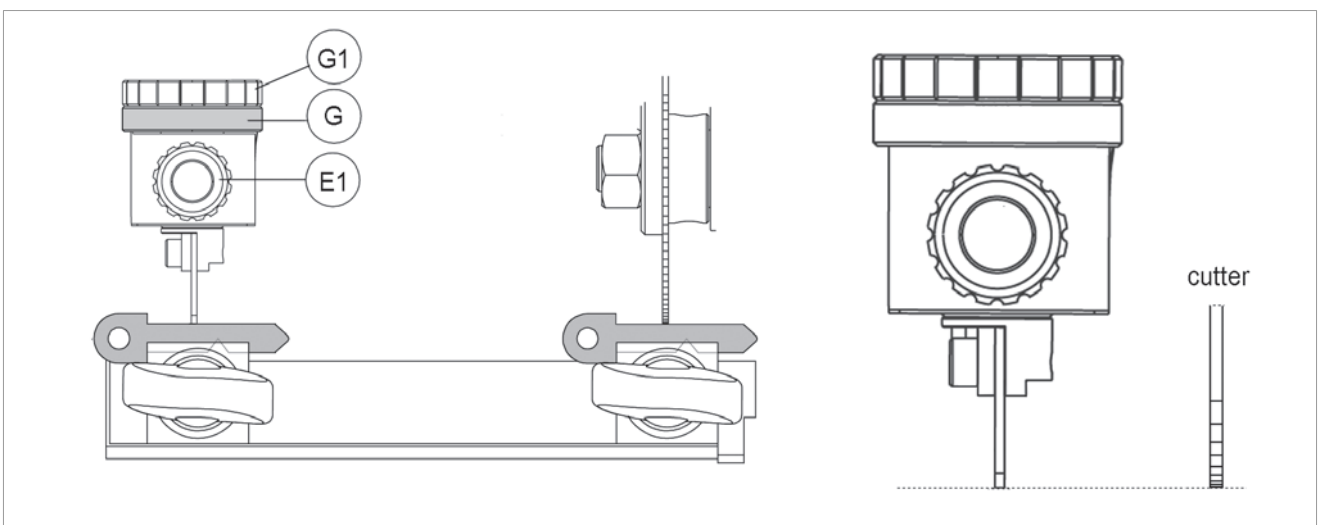
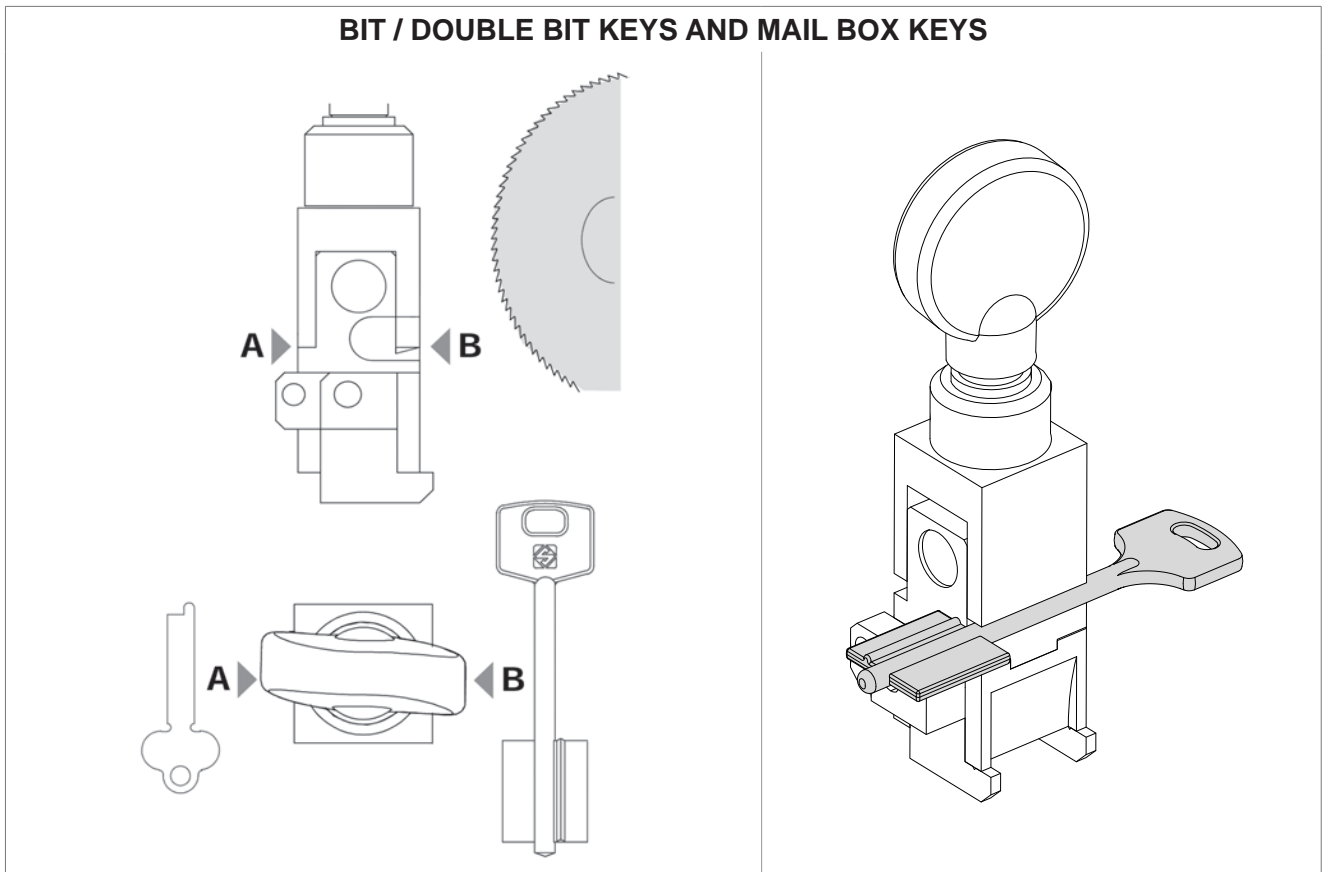

Fig. 17
Fig. 26
- 2) Place the adjusting keys on the clamps (Fig. 17) on the 2nd side (for mail box keys) (Fig. 26);
- 4) Move the carriage and take the keys into contact with the tracer point and cutter (Fig. 17).
- Clamp side for bit, double bit keys and bit keys with central stop (position B) (Fig. 26)
- Clamp side for mail box keys (position A) (Fig. 26)
- 1) Prepare the clamps with the required side facing the cutter and tracer point (Fig. 26).